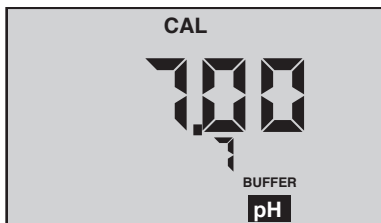

Figure 6
4. Press  to enter calibration mode. The “**CAL**”, “**BUFFER**” and “**7**” annunciators will appear (see Figure 6, page 17). Displayed value will be the uncalibrated sensor.